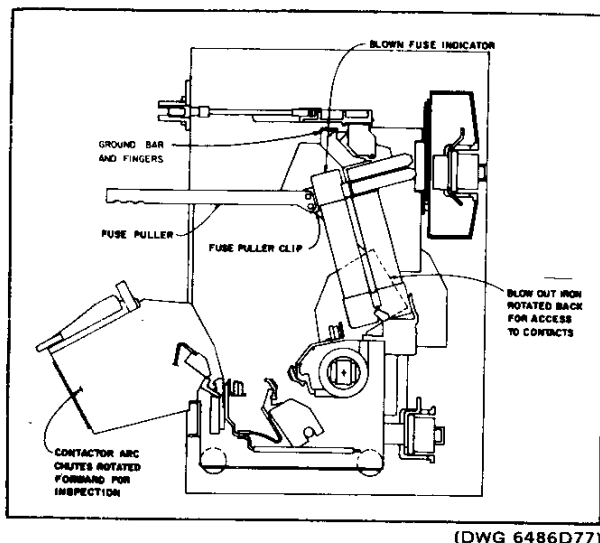

Fig. 7. Fuse Removal
**Fuses (See Fig. 7).** The current limiting motor starting fuses should be inspected after each fault-clearing operation, since this is the most severe service to which they will be subjected. Visual indication of a blown fuse is provided by an indicator in the top of the fuse. This indicator pops up and is visible over the top of the contactor arc chutes when the fuse is blown.
them out of the operation position (Fig. 7). To make a more detailed examination, to replace contacts, or to carry out any maintenance work, the contactor can be withdrawn from the enclosure to a drawout position. To do this: